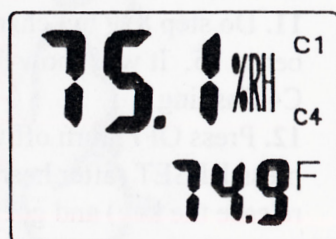

FIG24
13. In measuring mode, if the meter reads 75.1% and 74.9°F, it will continue beeping and display as shown in Fig. 24. C1, it means temperature is below our setting. C4, it means the humidity is above our setting.